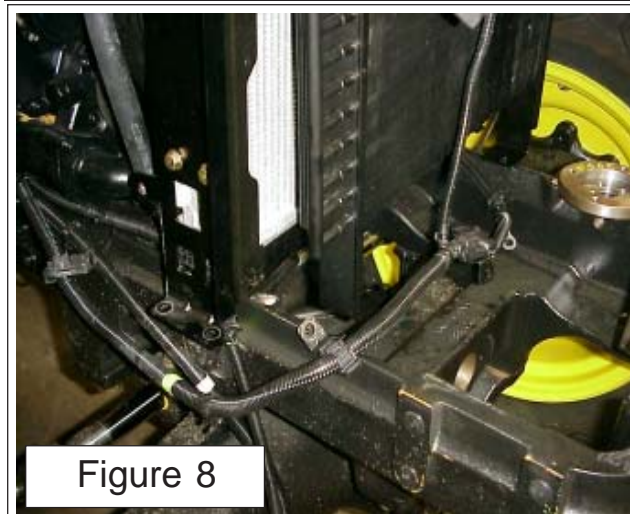

Figure 8
6. With the cover removed set the radiator and components back down on the tractors bolster, do not bolt them down, they will sit there fine as the hoses will not let them fall (See Figure 8). Note the electrical wiring that is left laying across bolster, no electrical connections other that the battery need to be disconnected to remove the cover..